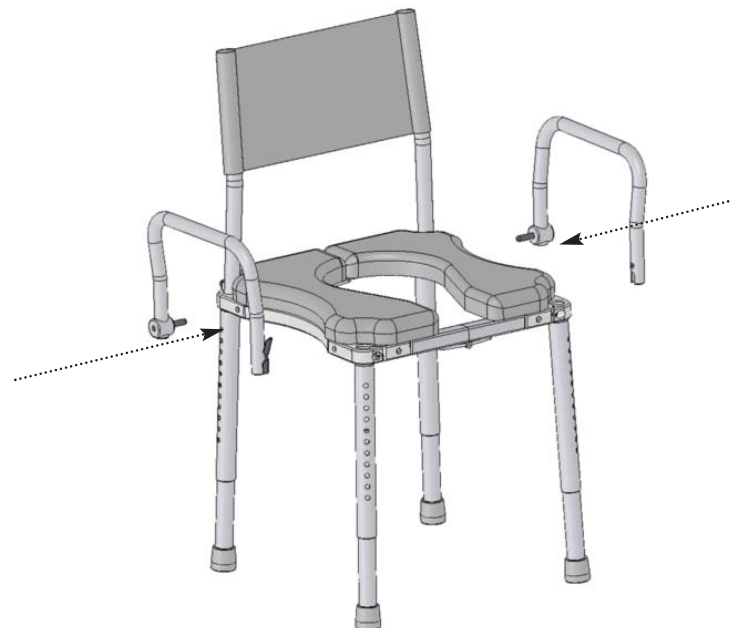

Figure 7
**F** Install the swing-away arms by first slipping the end of the arm with the steel pin into matching holes in the frame. Lower down the arms until the latch engages around the black plastic ball attached to either side of the frame (Refer to Figure 7).